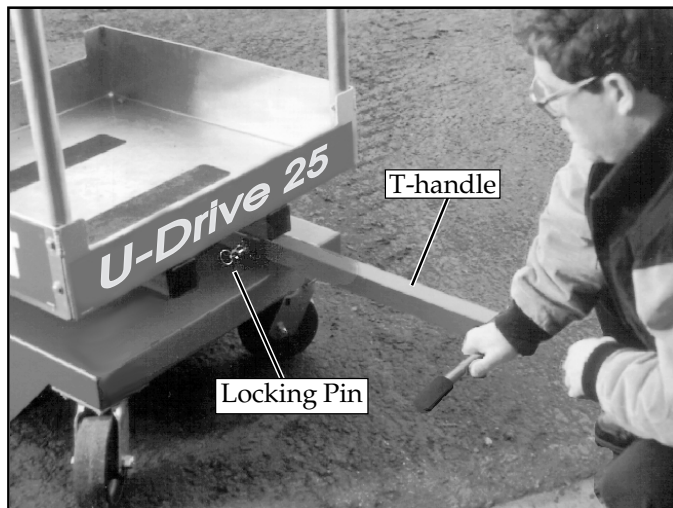

Figure 2-10: Handle positioning
6. Release the locking pin and pull the handle out until the locking pin engages the hole in the end of the handle (Fig. 2-10).